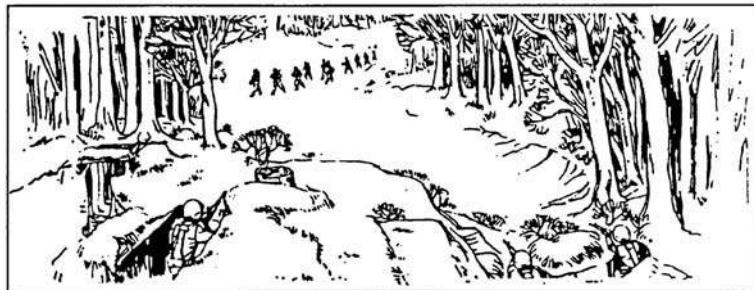

Figure 071-010-0006-13. Linear targets with depth
- f. Moving target. To hit a moving target, estimate the speed of the target and the lead required to fire and hit it. Fire, then track the target as it moves. Adjust the lead by observing tracers and the strike of the bullets (figure 071-010-0006-14 and figure 071-010-0006-15).